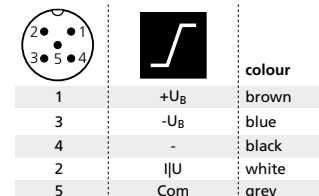

Fig. 1: Pin assignment with view onto sensor plug and colour coding of the microsonic connection cable
- Connect a connection cable to the M12 device plug, see fig.1.